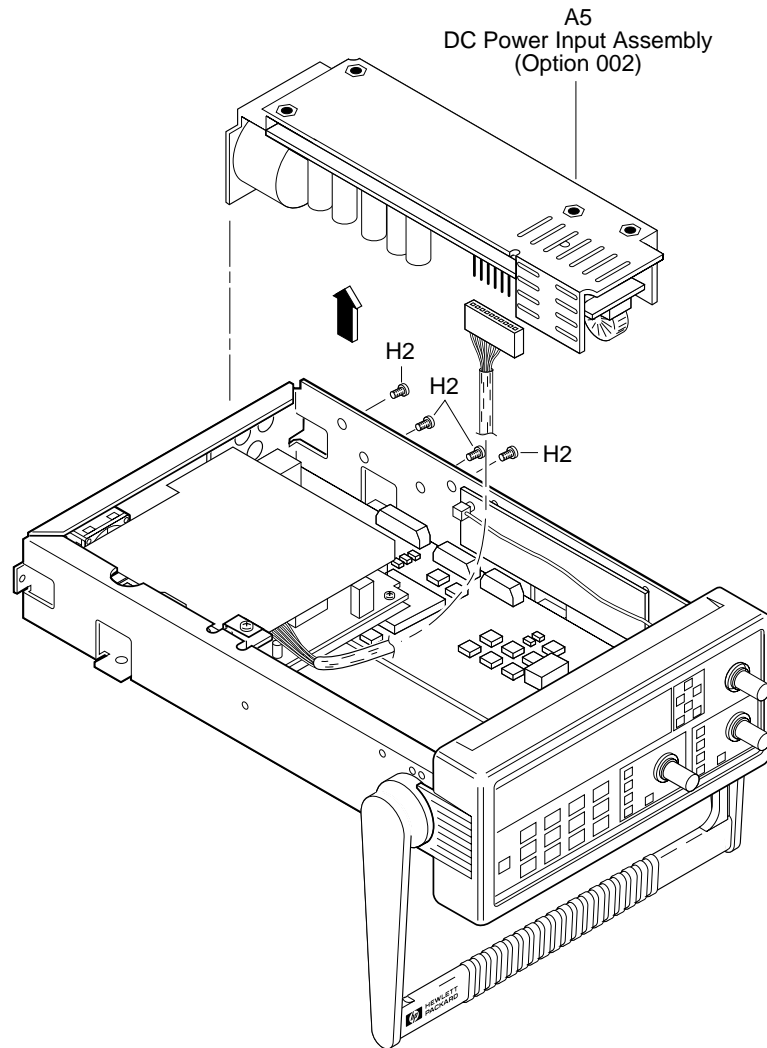

Figure 3-11. DC Power Input Assembly (Option 002) Removal
- 5 If the Counter contains the Option 002 DC Power Input Assembly, disconnect A4 AC Power Supply's other cable from Option 002 as shown in Figure 3-11.
2 Remove the four TORX 10 screws (H2) that attach A5 DC Power Input Assembly to the side of the chassis as shown in Figure 3-11.
- 3 Lift out A5 DC Power Input Assembly and disconnect cable as shown in Figure 3-11.**